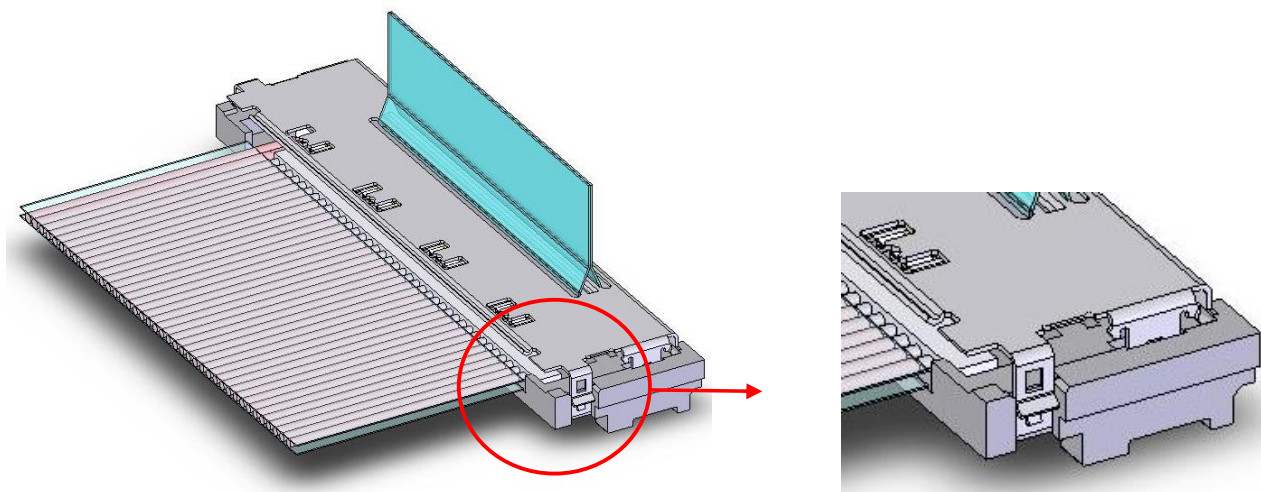

Fig.5 Temporary Sets Shell-A
- ② Temporary sets shell-A. See Fig.5.